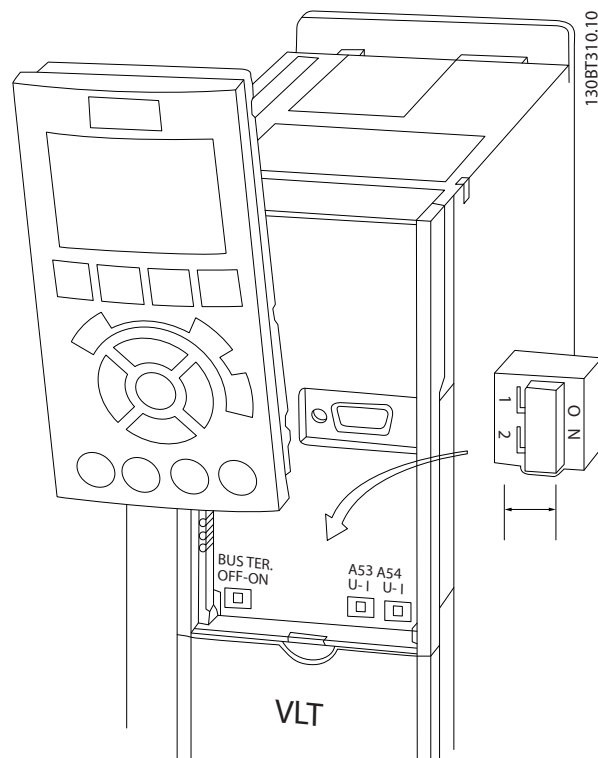

Figure 2.18 Location of Terminals 53 and 54 Switches and Bus Termination Switch
- The switches are accessible when the LCP has been removed (see *Figure 2.18*).